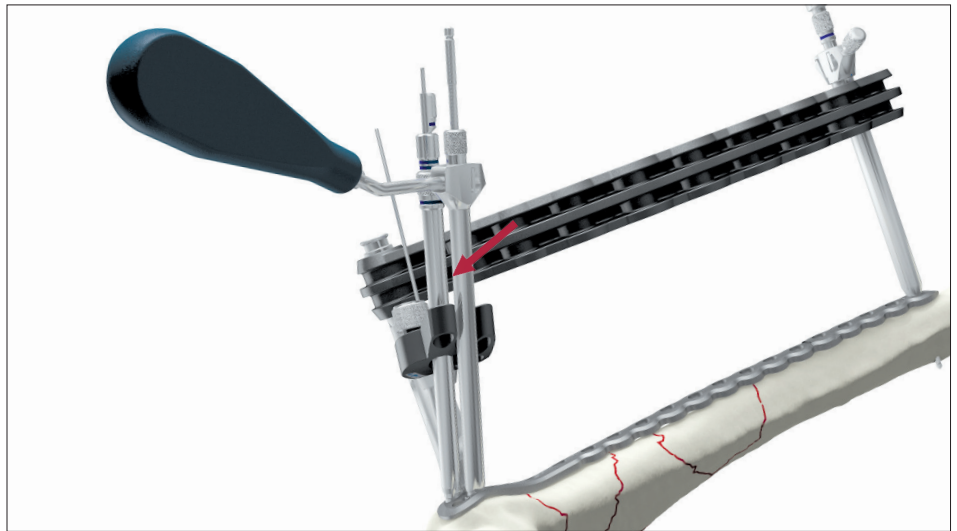

Fig. 18
It is recommended to use the most posterior metaphyseal hole (second screw row) by placing the freehand tissue protection sleeve in the recess (see arrow) at the posterior aspect of the aiming block (fig. 18). This screw trajectory helps to avoid interference with any of the later inserted screws in the metaphysis. Use the calibrated drill Ø3.2mm (ref 703542) and drill the core hole to the appropriate depth. It is recommended to drill under fluoroscopy control to avoid interference with preset K-wires. Manipulate the K-wires as necessary. The screw length may be directly read off the calibrated drill or using the screw scale (ref 703587) as described under measurement options on page 7.